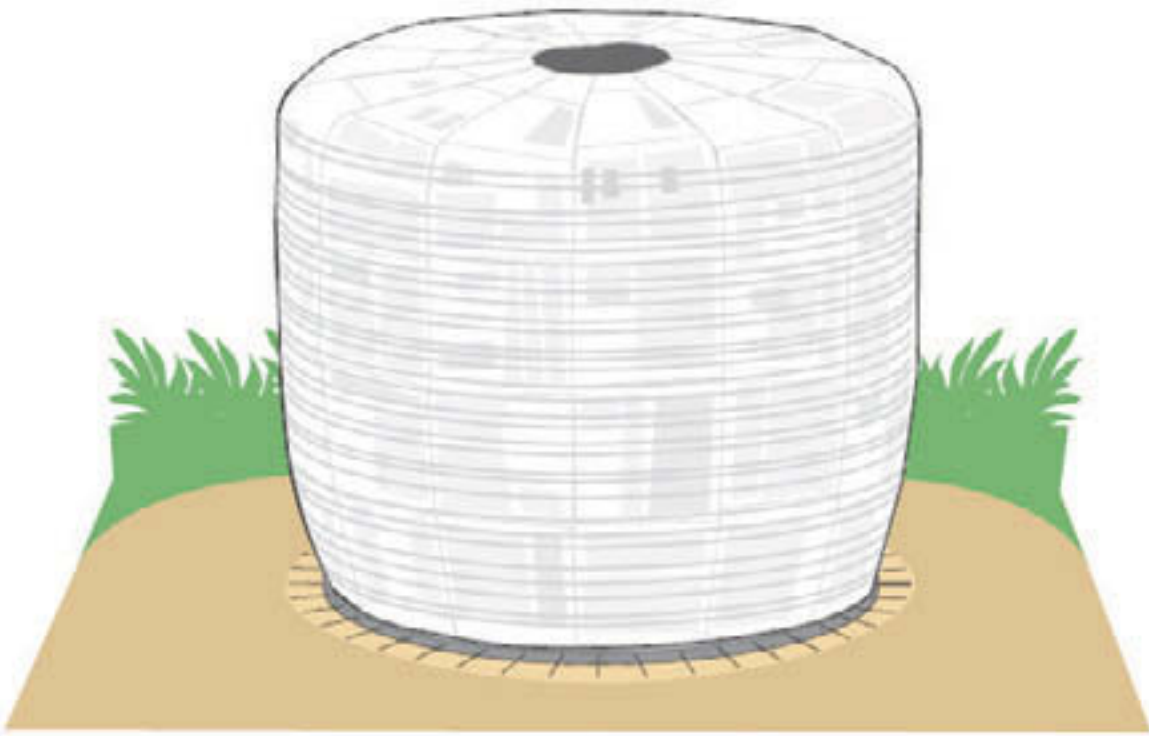

Fig. 25: Starting the tank
1. When the base is dry, tie the steel bar form together (figure 25). Putting the form together on the base or another flat surface is crucial to achieving proper form alignment. Be sure that the wires sticking out from the base are not caught under the frame. Place bags of rocks or sand against the inner wall of the form. This will prevent the form from moving while plastering the first layers of mortar. Wrap the form horizontally in #18 steel wire about every 10 cm. This will help hold the form together and give the first layer of mortar something to “grab” onto.